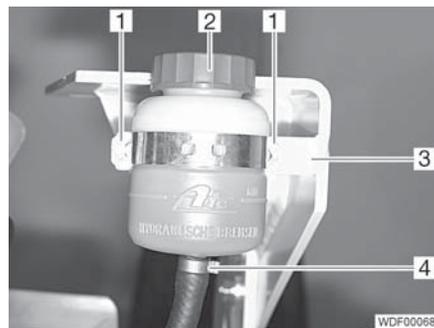

Fig. 138 Brake hydraulics tank
- Unscrew the 2 screws (Fig. 138,1).
- Unscrew the cap (Fig. 138,2).
- Remove the tab clamp (Fig. 138,4).
- Place the tank into position on the holder (Fig. 138,3).
- Tighten the 2 bolts (Fig. 138,1) with washers.